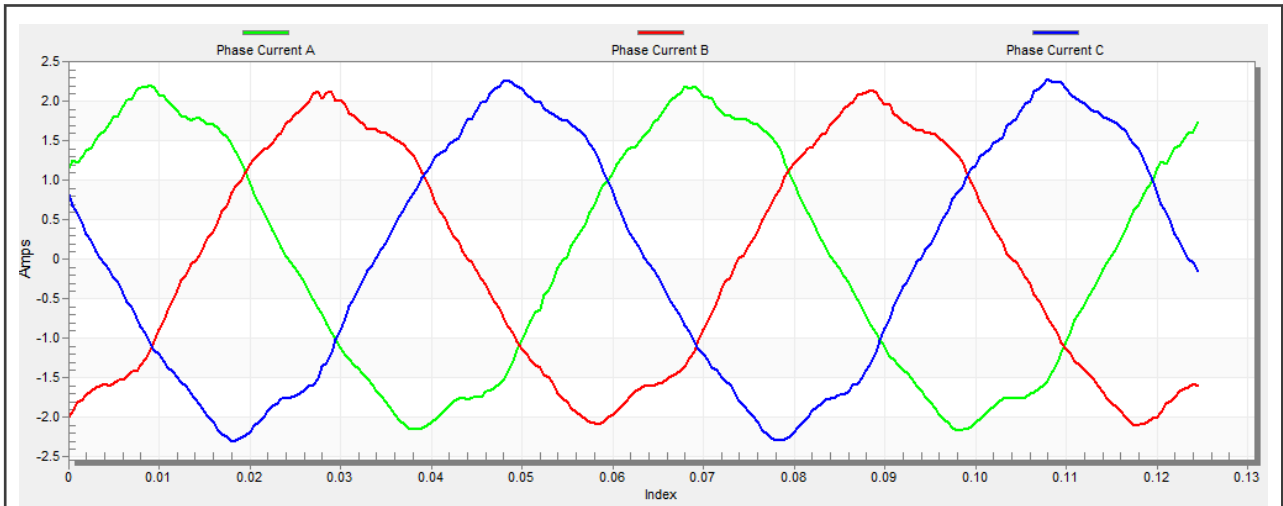

Figure 36. Phase currents
- The optimal ratio for the V/Hz profile can be found by changing the V/Hz factor directly or using the “UP/DOWN” buttons. The shape of the motor currents should be close to a sinusoidal shape (Figure 36).